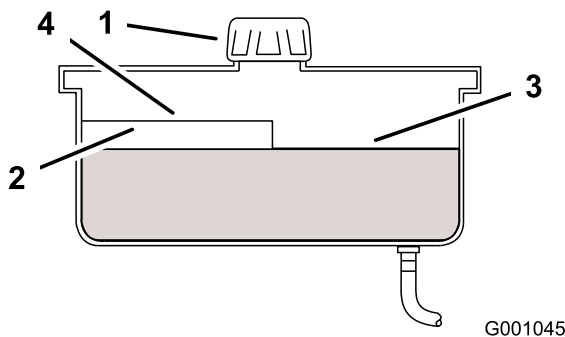

Figure 59
4. Clean area around cap and filler neck of hydraulic tank (Figure 59).
5. Remove cap from filler neck. Look inside to check if there is fluid in the reservoir. (Figure 59).
Note: The fluid level should be to the top of the hot level of the baffle, when the fluid is warm (Figure 59).